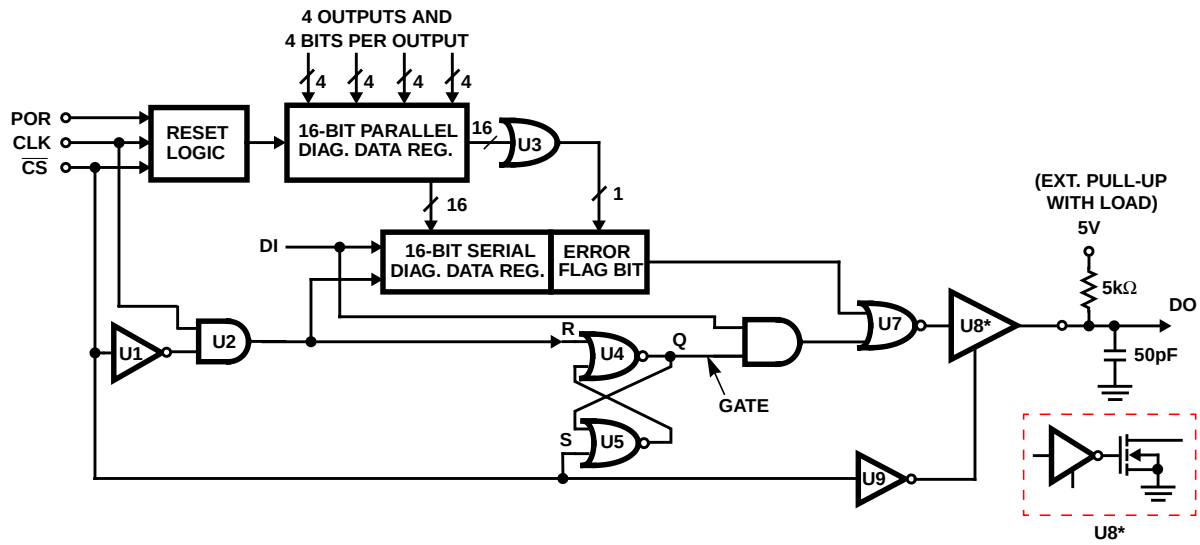
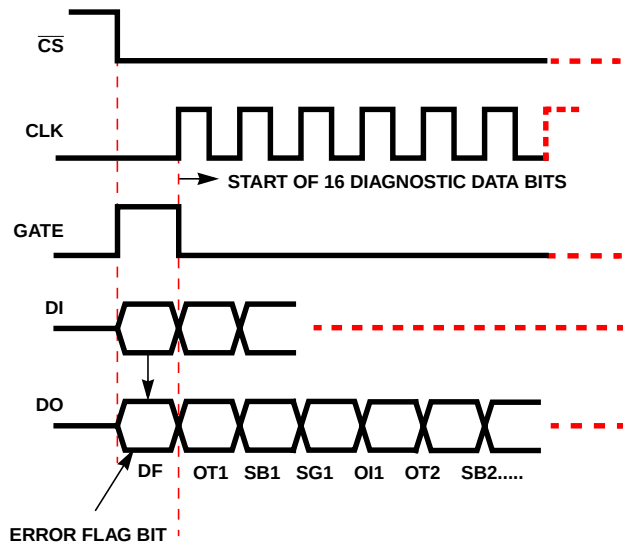

FIGURE 1. DIAGNOSTIC INTERFACE LOGIC
FIGURE 2. DATA AND CLOCK TIMING
HIP0080, HIP0081 Referring to Figure 1 and Figure 2, there are two sources that generate an OR'ed Fault Flag at DO when $\overline{CS}$ goes low. The two fault data sources are (1) the on-chip fault detection and (2) the off-chip DI input from front end ICs in the cascade. The fault data bit, labeled DF (Data Fault) in Figure 2, contains the OR'ed inputs from both sources. The DF bit is not part of the 16-bit serial diagnostic data sequence. In cascaded operation, the DI input for the first of the selected chips should be tied low. And, in single IC operation (no cascade), the DI input should also be tied low. In cascaded operation, the Error Flags are cascaded via the DI inputs.
HIP0080, HIP0081 The last IC in the string ORs its own 16 fault bits in the parallel diagnostic register data and sends this data bit to an Error Flag register. The Error Flag register outputs the presence of a fault in one or more bits of the parallel diagnostic data register. As shown in Figure 2, the Error Flag is the first bit in front of the serial register and is input to OR Gate, U7 with the DI input. The DI input passes thru AND Gate, U6 when the GATE signal is high and output via the amplifier U8 to DO. The output amplifier U8 is active only while $\overline{CS}$ is low. When $\overline{CS}$ is low, the RS Flip-Flop drives the GATE output high. When the GATE is high, the cascaded DF bits are jammed from DI to DO. All Error Flags in the cascade are cleared (by the CLK input) when the serial diagnostic data is clocked out of DO.
HIP0080, HIP0081 Technically, the HIP0080 and HIP0081 fault data has only 16 bits. Except for the Error Flag, DF data bit shown in Figure 2, the format matches that of a normal CPOL = 0, CPHA=1 SPI protocol (polarities, phase, etc). The DF bit from the DO output is active only until the clock starts. The best way to take advantage of it (if desired) is to connect the DO to the SPI bus, and also to a port pin, or other logic input. After CS goes low and before the SPI clocks starts, the DF bit can be read. If it is a zero, then the rest of the data does not have to be read. (The data will be all 0's = no errors). If the DF bit = 1, then the data must be read to find out which bit(s) is set.